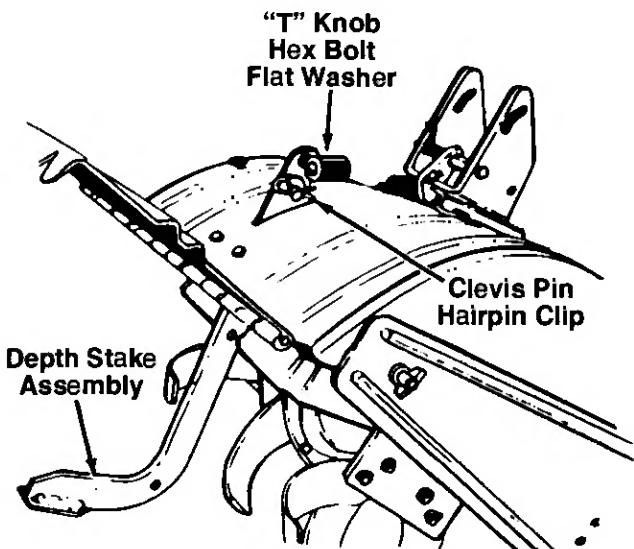

FIGURE 1.
1. Tip the tiller forward so it rests on front counter-weight. See figure 1.
3. Raise the tine shield hinge flap assembly. Insert the depth stake assembly between the two shoulder bolts (under the tine shield) and up through the tine shield assembly as shown in figure 1.
5. Insert hex bolt into the top hole of the depth stake assembly. Place flat washer onto the hex bolt and thread "T" knob onto the hex bolt. See figure 1. Tighten securely.